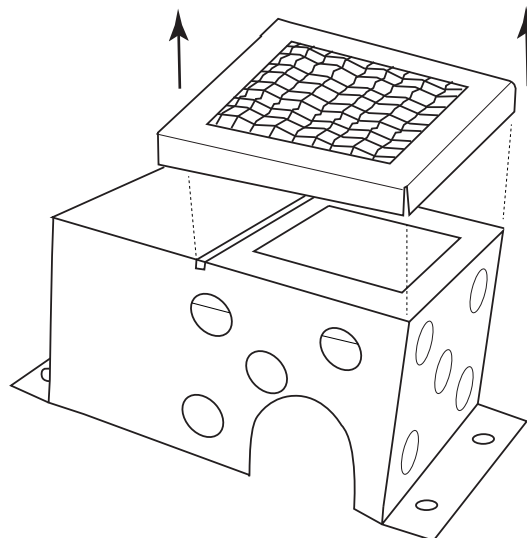

Fig. 9 Removing screen cover from ignitor hood.
PRECAUTION: If you are installing the MSI (Manul Spark Ignition) ensure the PAVER-KIT-TMS-MSI control panel is within 40-inches of the 2-probe Piezo ignitor. This will allow enough “play” in the wires to make your connections. See Fig. 9.
Step 1: Prepare the fire pit pan by first removing the screen cover hood from the ignitor hood. See Fig.9.